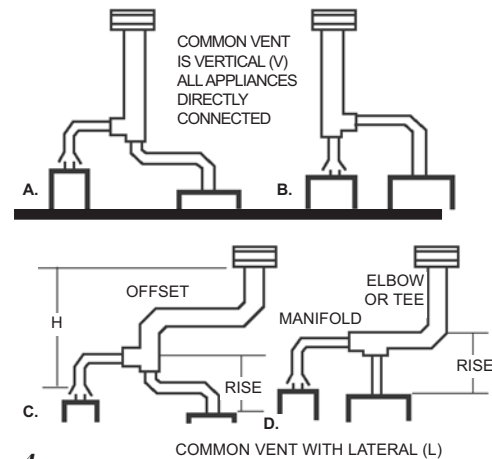

Figure 4
**MULTIPLE-APPLIANCE VENT** is a venting system combining the connectors of two or more appliances at one floor level to a common vertical vent. Connector in a combined vent system connects an individual appliance flue collar to the common vent or manifold (Figure 4).
**CONNECTOR RISE** for any appliance in a vent system is the vertical distance from the flue collar outlet to the point where the next connector joins the system (see Figure 4).
**COMMON VENT** is that portion of the venting system above the lowest interconnection. When the common vent is entirely vertical, the system is called a **VERTICAL** or **V** type. All others are called **LATERAL** or **L** type (see Figure 4).